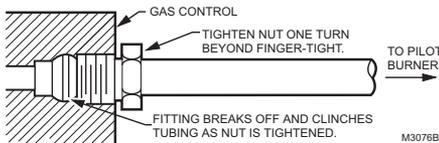

Fig. 6. Always use New Compression Fitting.
**NOTE:** When replacing a control, cut off old compression fitting and replace with the compression fitting provided on the combination gas control. Never use the old compression fitting as it may not provide a gas-tight seal. Refer to Fig. 6.